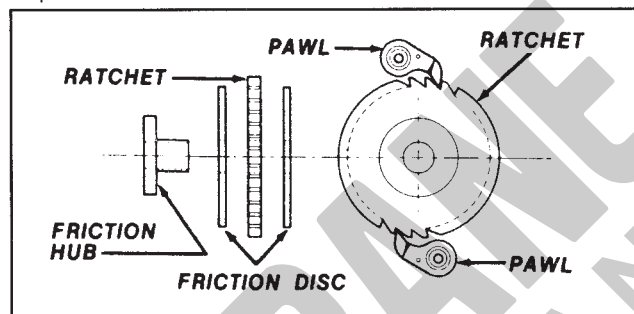

Figure 5. Brake Component Assembly
1. Assemble the brake components as shown in Figure 5. The ratchet teeth must face as shown and engage the pawls.